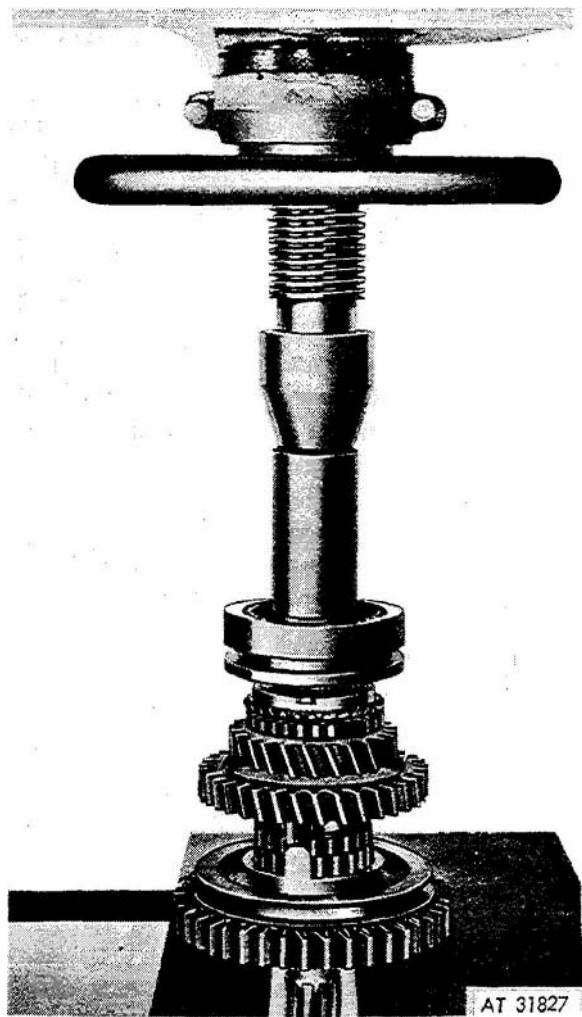

Figure 3-31. Pressing on clutch hub.
(k) Support transmission mainshaft assembly in suitable press on rear face of splined hub behind first and reverse gear (13, fig 3-20) and press on third and fourth gear clutch assembly with the wider land on clutch sleeve outside diameter and longer shoulder on the hub toward front end of mainshaft until rear of hub bottoms against hub of third speed gear (fig 3-31).
*g. Reverse Idler gear Adjustment.* With transmission fully assembled, except for installation of transmission cover, proceed with reverse idler gear position adjustment as outlined in (1) thru (4) below.
(1) Loosen nut (fig 3-31). Rotate eccentric shaft with screw driver until dots near end of slot on shaft are toward rear of transmission to put reverse idler gear (10, fig 3-14) in extreme rearward (fully engaged) position when transmission is shifted into reverse.